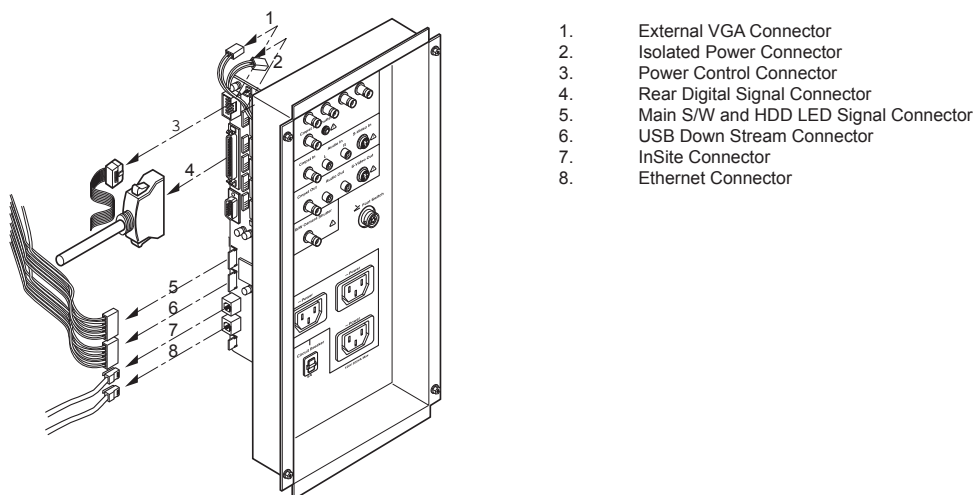

Figure 8-102 Disconnecting 8 Connectors
5.) Disconnect 8 connectors (1-8) from the left side of the Panel. Refer to Figure 8-102 on page 8-55 .